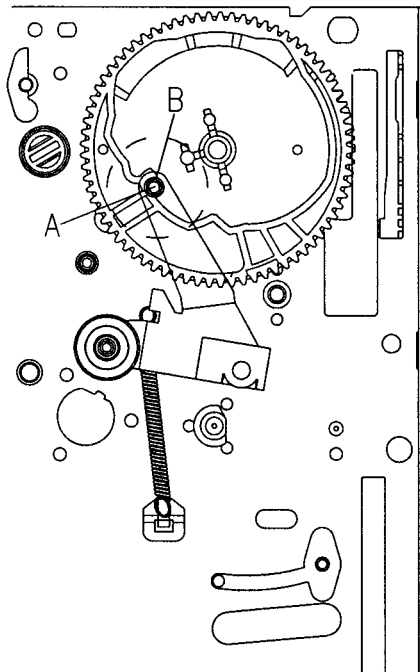

Fig.4-4 DATUM POSITION OF PINCH LEVER TOTAL ASS'Y & CAM GEAR
- d. Make sure that boss "A" of the PINCH LEVER TOTAL ASSEMBLY is positioned at point "B" of the CAM GEAR, as shown in Fig.4-4.